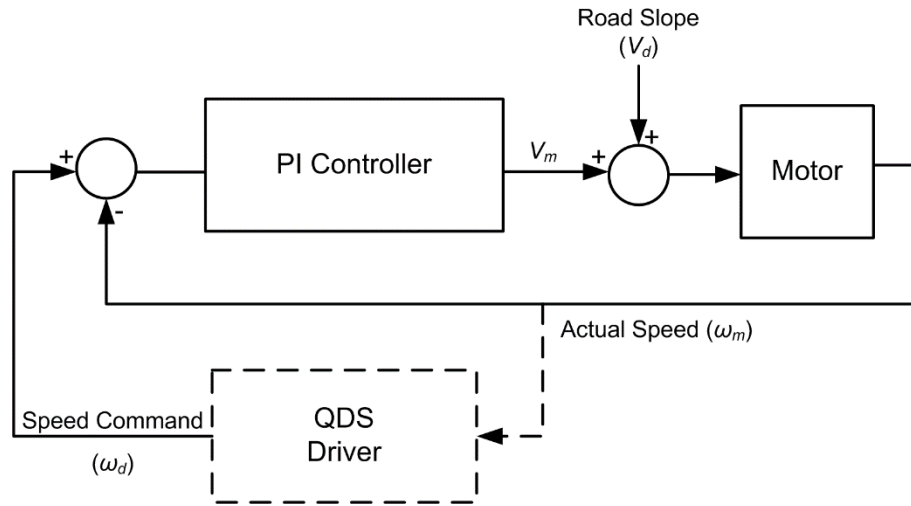

Figure 3:QDS speed controller
For this laboratory, you will use the QDS in conjunction with a Rotary Servo to develop a Proportional-Integral (PI) speed controller to regulate the speed of the simulated vehicle. This exercise is analogous to developing an ETC for an electric vehicle, shown in Figure 3. In this case, the disturbance to the speed of the vehicle is the slope of the road, which is converted into a voltage and added to the control command. The controller that you will design takes the actual speed of the Rotary Servo motor as the derivative of the encoder measurements, and the commanded speed from the internal driver controller in the QDS. The PI controller then outputs the motor voltage, V_m , which is added to the slope of the road and sent to the Rotary Servo. The slope of the road is provided by the sensors inside the QDS.